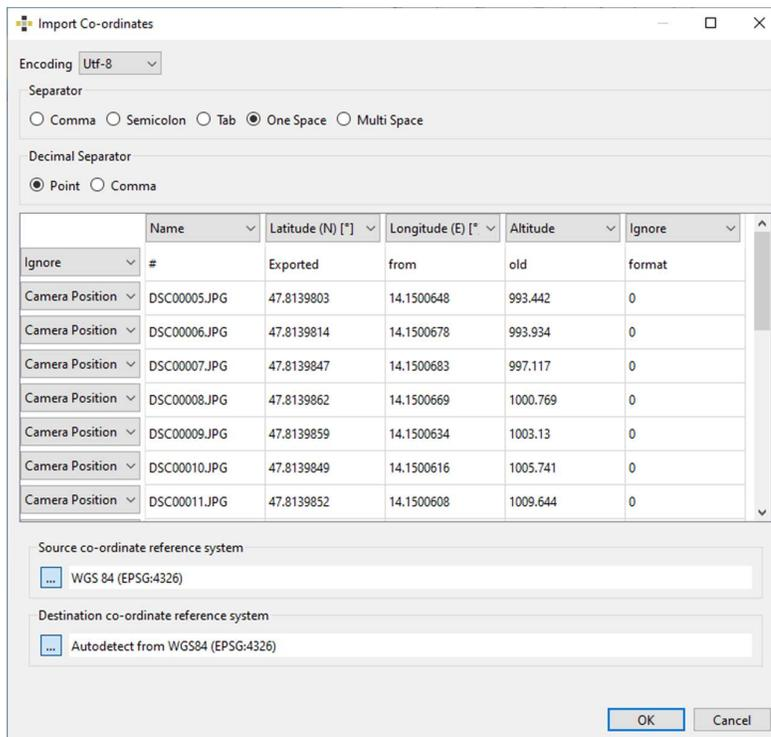

Figure 12: Import Co-ordinates. See Chapter 4.1.3 for further information.
Imports GPS co-ordinates from a “.txt” file (Figure 12).
1. Choose a text file containing the positional information and a dialog appears (Figure 12) requiring following input: